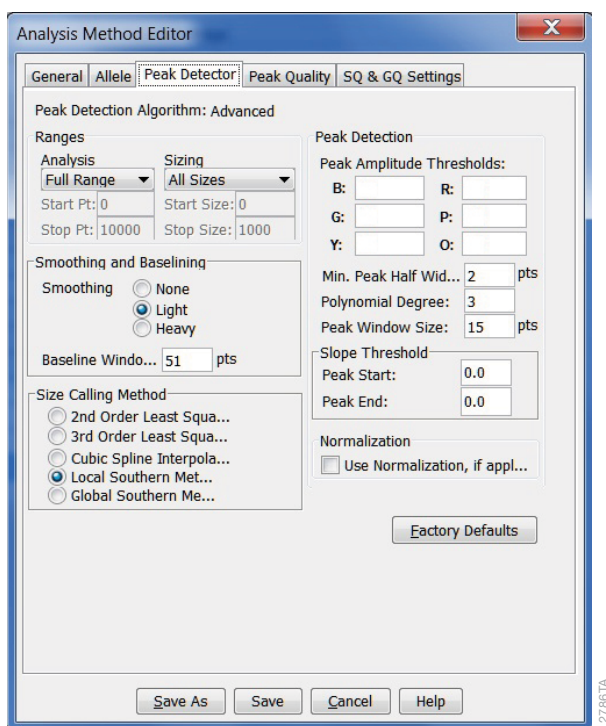

Figure 13. The GeneMapper® ID-X Software 'Peak Detector' tab.
9. Select the 'Peak Detector' tab (Figure 13). You will need to optimize these settings. In-house validation should be performed.